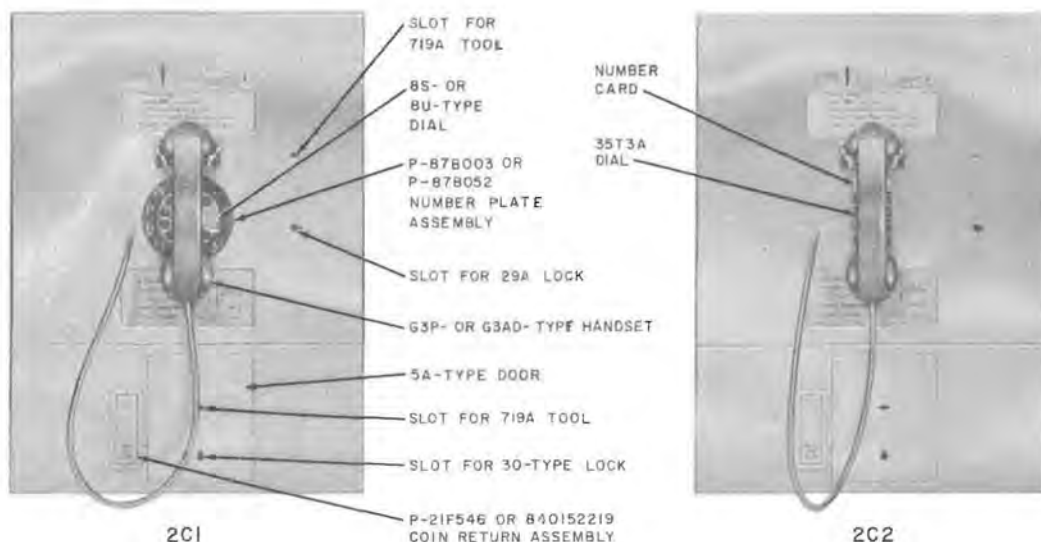

Fig. 2—2C-Type Coin Telephone Sets
2.02 The 2C-type coin telephone set (Fig. 2) can be installed in the following: